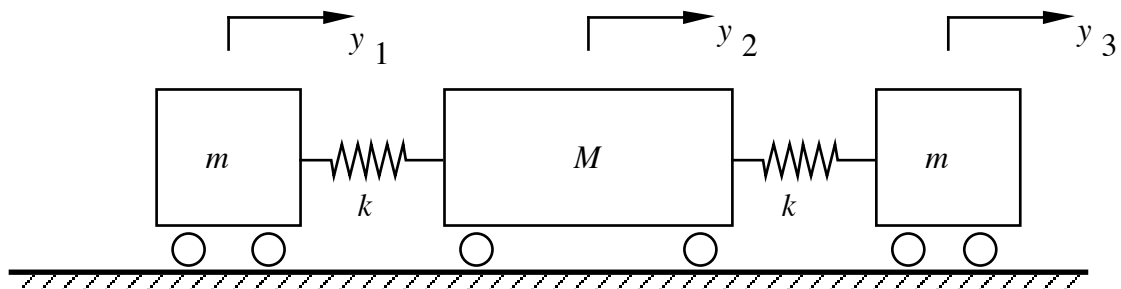

Fig. 5
*5. Two equal masses m are attached to a third mass M by two equal springs each of stiffness k as shown in Fig. 5. Derive the equations of motion for the system in terms of the three coordinates y_1 , y_2 and y_3 as shown.